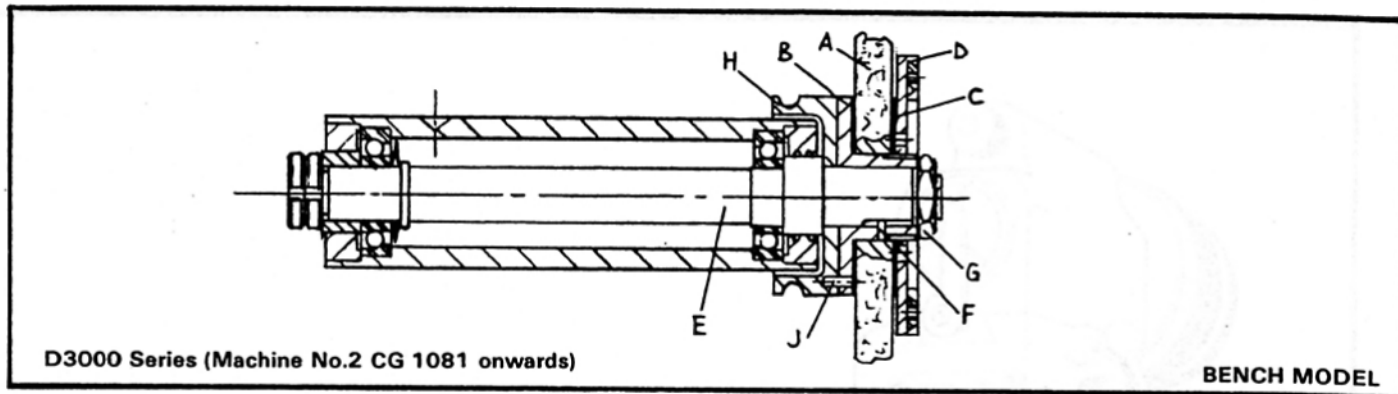

FIG. 36
REMOVING AND FITTING THE GRINDING WHEEL (Figs. 36 and 37)
To remove a grinding wheel undo the hexagon nut G (Figs. 36 and 37) and remove the threaded flange plate D (Figs. 36 and 37) using the box spanner and pin spanners supplied with the grinder. If replacement wheels complete with flanges are available it is only necessary to undo the hexagonal nut G (Figs. 36 and 37). The wheel and flange can be removed together.
Bench Type (Fig. 36)
Place the wheel (A) (Fig. 36) complete with its cardboard washers onto the flange (B) (Fig. 36). Fit the tab washer (C) (Fig. 36) and secure the assembly with the threaded flange plate (D) (Fig. 36). Assemble the complete wheel and flange unit on the spindle (E) (Fig. 36) and make sure that the locating pin (F) (Fig. 36) is properly seated in the machined slot in the spindle and that the pin (J) (Fig. 36) is seated in the pulley (H) (Fig. 36). Secure the complete unit to the spindle with hexagonal nut (G) (Fig. 36).